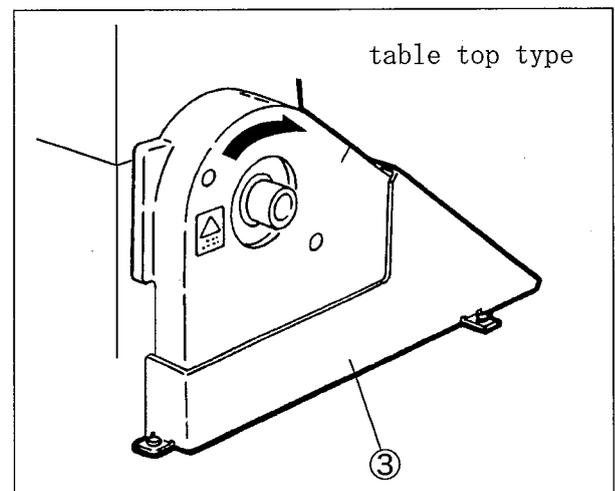

Fig. 2-13
- (3) Fix the belt cover (lower) ③ onto the machine table only for table top type. (See Fig. 2-13)